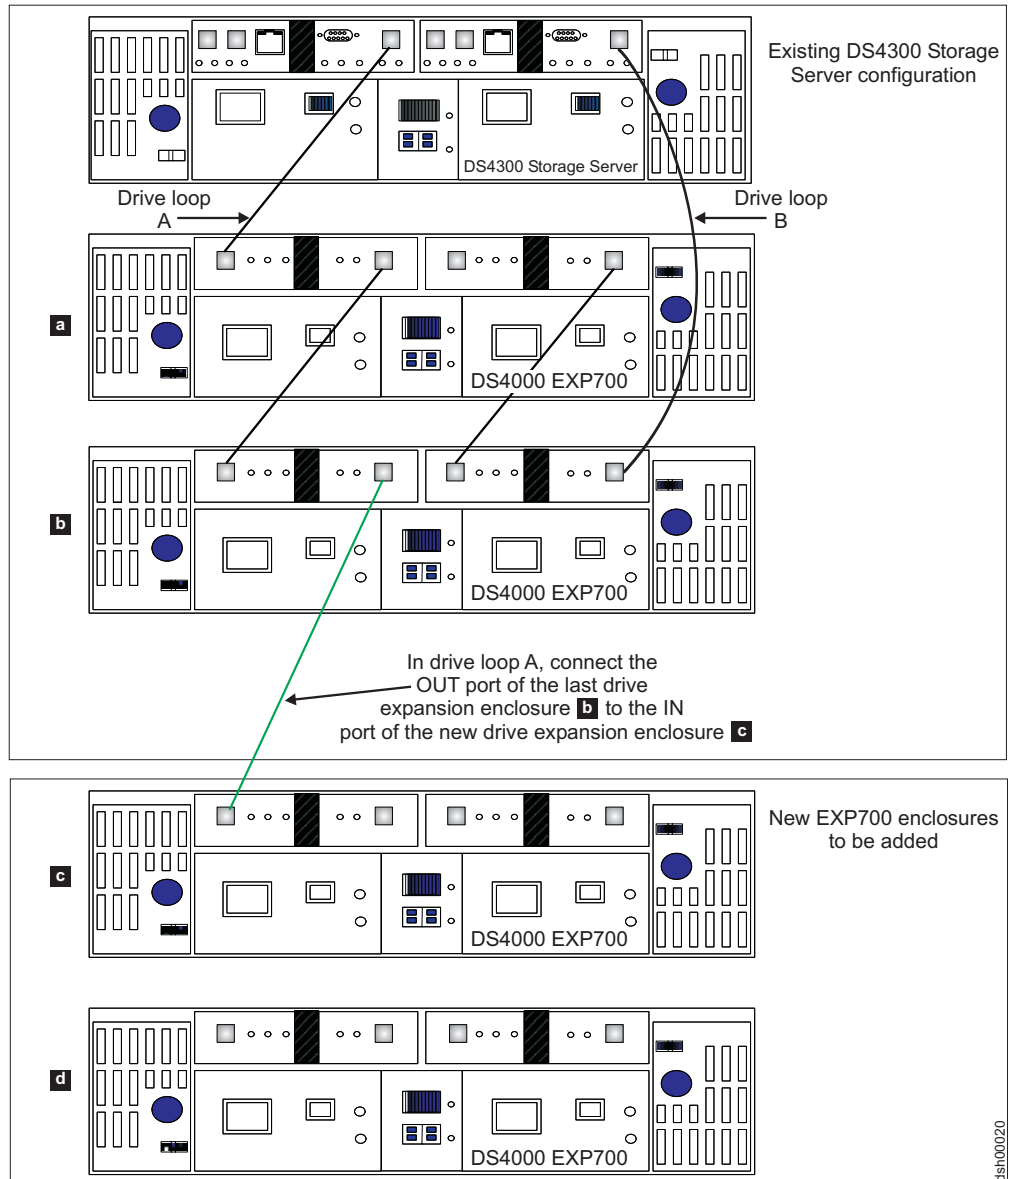
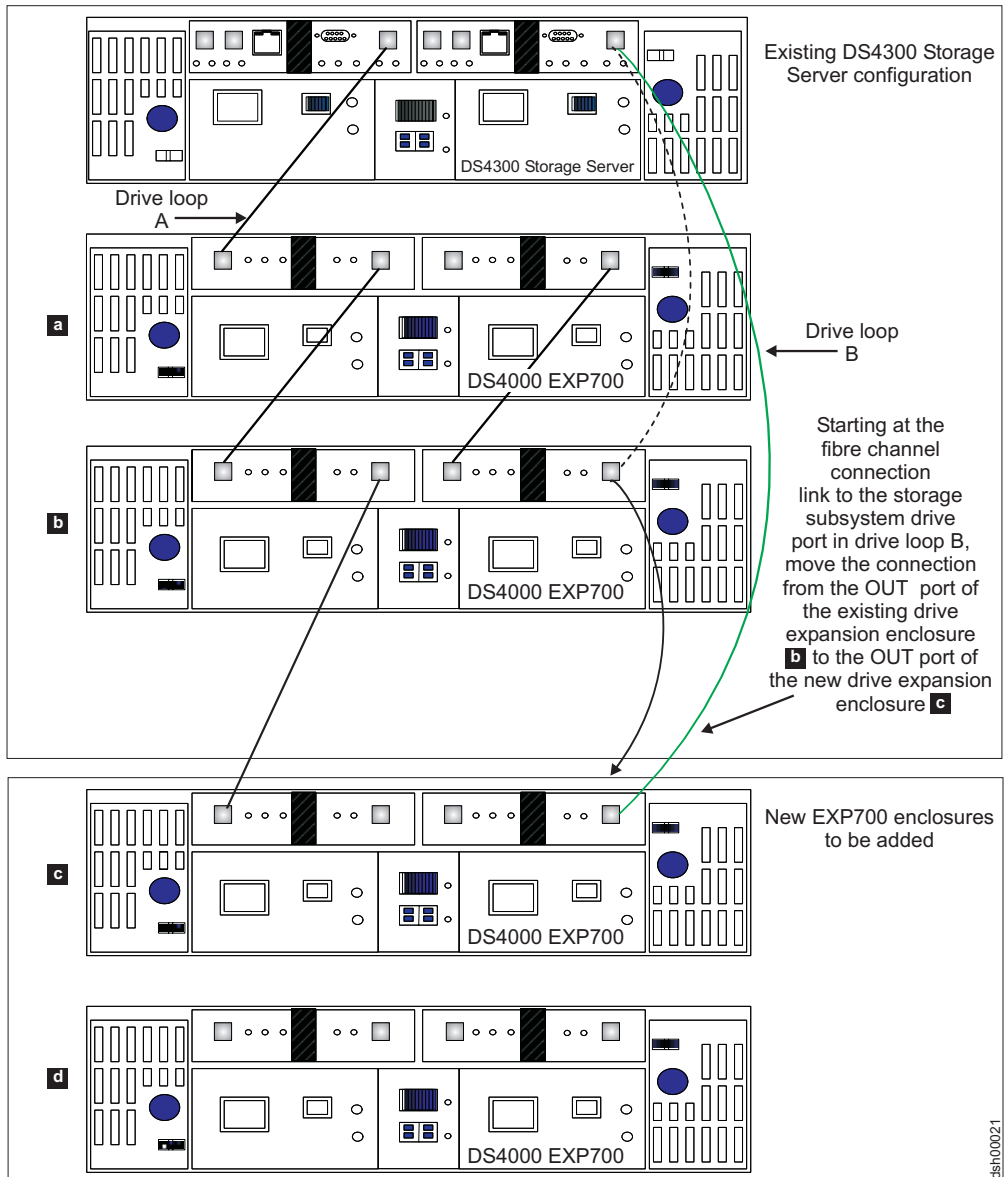
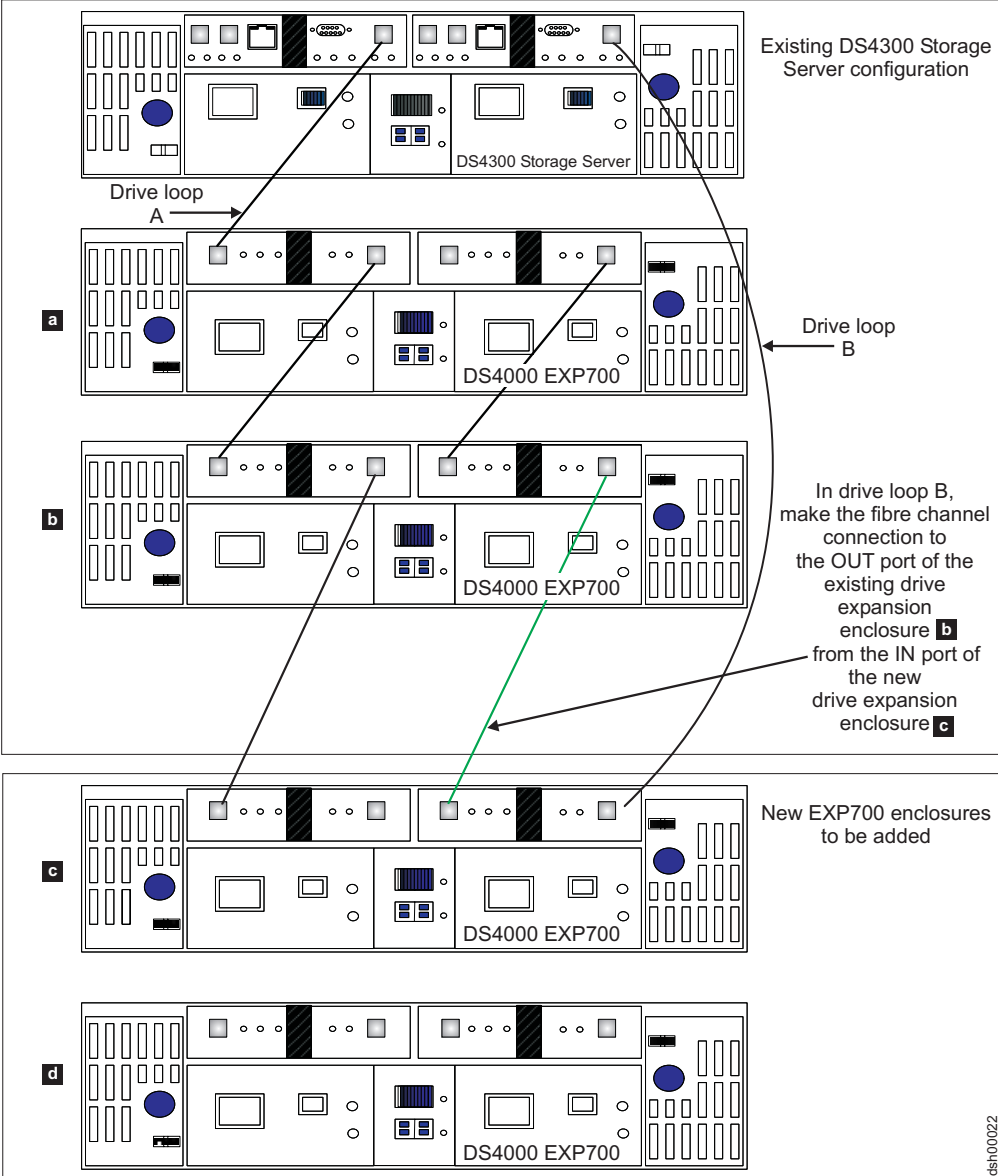

Figure 25. Cabling a single drive enclosure to the end of a functioning drive loop (step 1 of 3)
Figure 26. Cabling a single drive enclosure to the end of a functioning drive loop (step 2 of 3)
Figure 27. Cabling a single drive enclosure to the end of a functioning drive loop (step 3 of 3)
The cabling instructions illustrated in Figure 25 on page 75, Figure 26 on page 76, and Figure 27 on page 77 describe cabling a DS4000 EXP700 Storage Expansion Enclosure to the end (bottom) of a redundant drive loop of a functioning DS4300 Storage Subsystem (model 60X or 60U). IBM recommends that you add storage expansion enclosures to an existing drive loops only in this manner. See “DS4000 Storage Subsystem drive loop schemes” on page 27.
- ___ Step 2. Extend one of the drive loops (that is, drive loop A) in a DS4000 Storage Subsystem redundant drive loop pair by connecting the OUT port of the last storage expansion enclosure to the IN port of the new storage expansion enclosure as shown in Figure 25 on page 75.
- ___ Step 5. In the other drive loop (that is, drive loop B) in a DS4000 Storage Subsystem redundant drive loop pair, remove the connection from the DS4000 Storage Subsystem drive loop port to the OUT port of the last storage expansion enclosure and connect it to the OUT port of the new drive enclosure as shown in Figure 26 on page 76.
- ___ Step 7. In drive loop B, cable the new drive enclosure's IN port to the 0UT port of the last enclosure in the already functioning storage expansion enclosure drive loop as shown in Figure 27 on page 77.